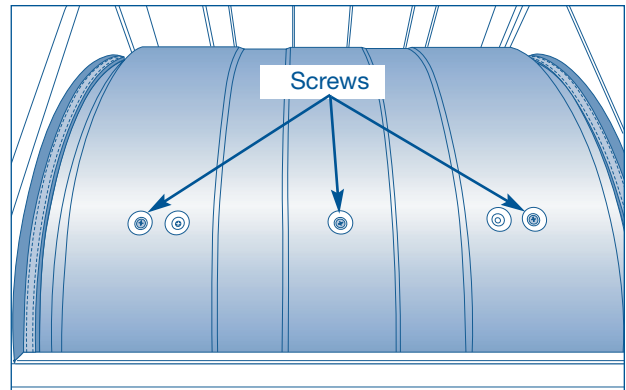

Figure 4-41.
2. Rotate the drum to access the screws on the exterior of the drum. While supporting the drum vane, use a #2 square bit screwdriver and extract the screws securing the drum vanes to the interior of the drum. (See Figure 4-41)